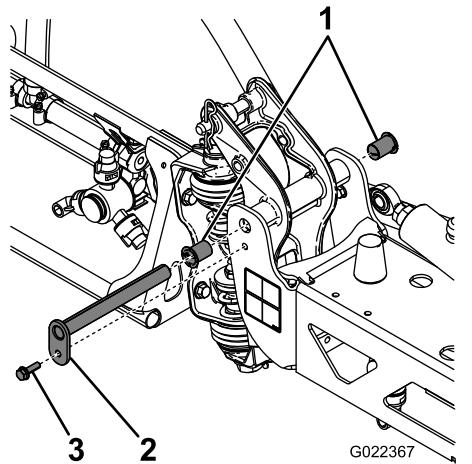

Figure 95
3. With the weight of the boom supported, remove the bolt and nut securing the pivot pin to the boom assembly (Figure 95).
6. Remove and inspect the nylon bushings from the front and back sides of the pivot bracket (Figure 95).
8. Install the boom and pivot bracket assembly into the center frame, aligning the openings (Figure 95).